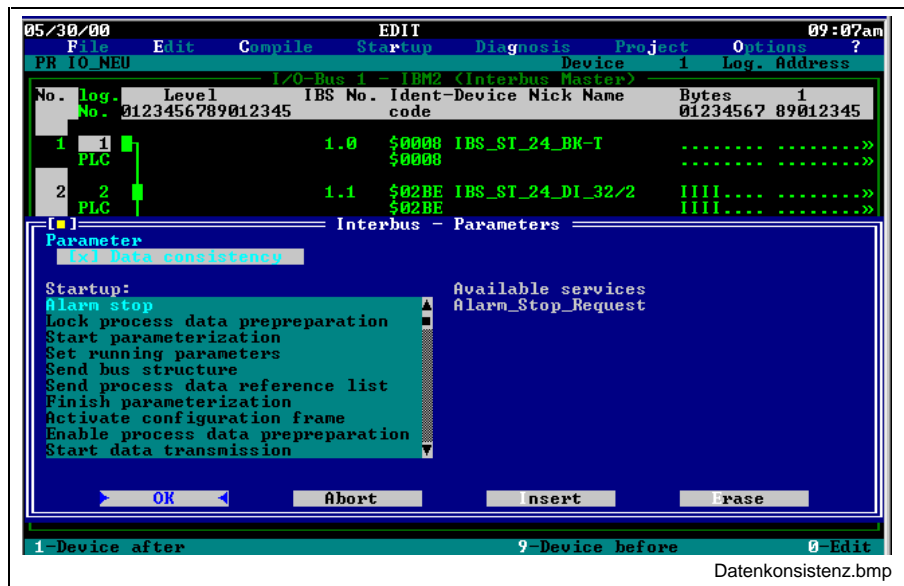

Fig. 8-5: Switch data consistency in Interbus parameter
An access mechanism for this option was implemented via the pop-up menu (<Alt>+<F10>) of the I/O editor (see also Fig. 8-5: Switch data consistency in Interbus parameter
- Fig. 8-5: Switch data consistency in Interbus parameter 8-5